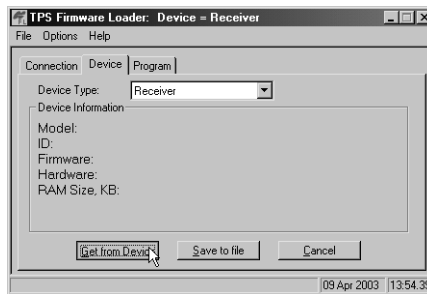

Figure 4-23. Get Device Type
1. In FLoader, select the **Device** tab and set the Device Type as Receiver (Figure 4-23).
2. Click **Get from Device** for device information (Figure 4-23).